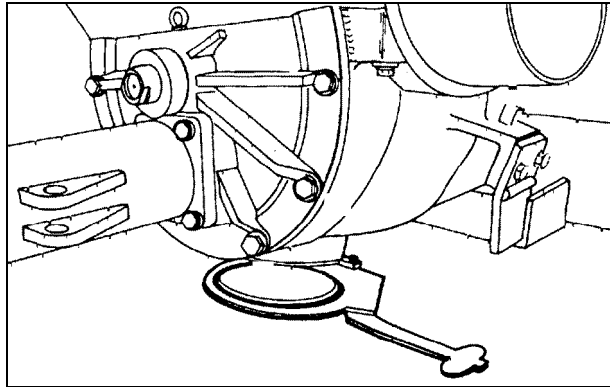

Fig.: 21
- Close and secure the cleaning cover of the rock valve (Fig.: 21).